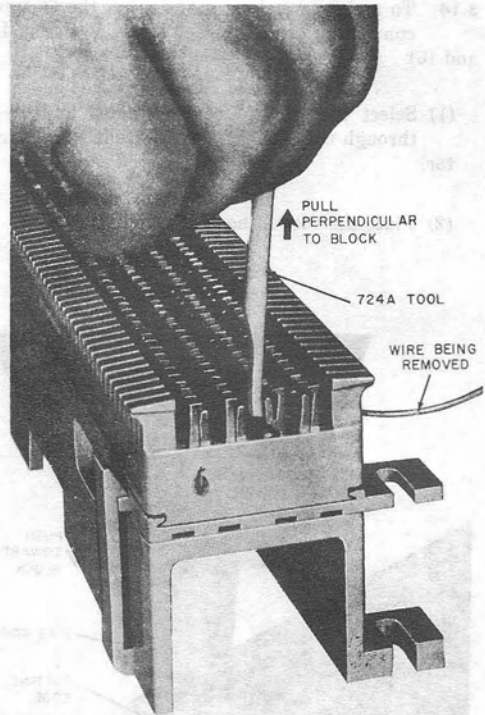

Fig. 18—Removing Wire With 724A Tool
4.03 Place the fork of the 724A tool astraddle the terminal and under the wire. Grasp the tool and pull the wire from the terminal in a direction perpendicular to the face of the block (Fig. 18).